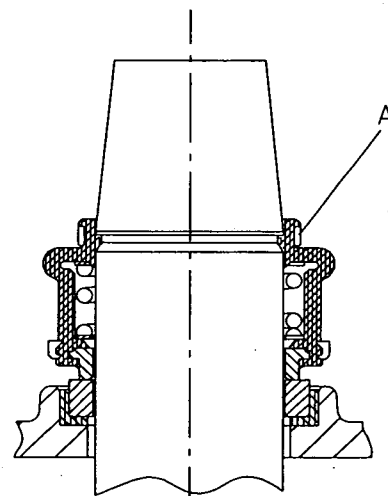

Fig. 15
b) Rubber-bellows seal, with internal spring - type "M" (Fig. 15)